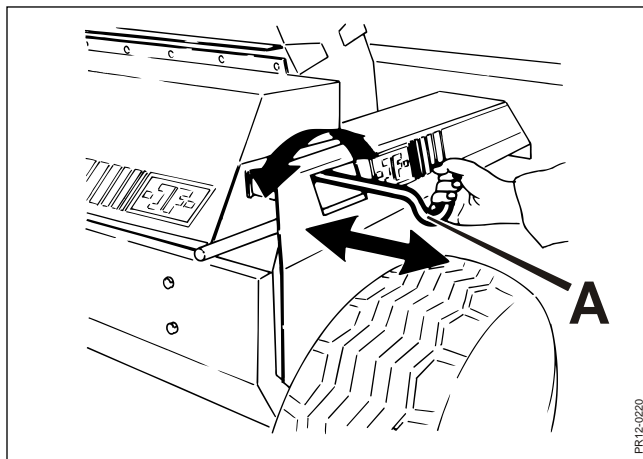

Fig. 4-24
- Fig. 4-24** 7. Feed carefully by turning the handle **A** until the stone touches the blades. Move the stone in a slow, sliding movement across the whole rotor and back again. Feed some more and repeat the movement across the whole width of the rotor so that the blades in the whole width of the rotor are sharpened.